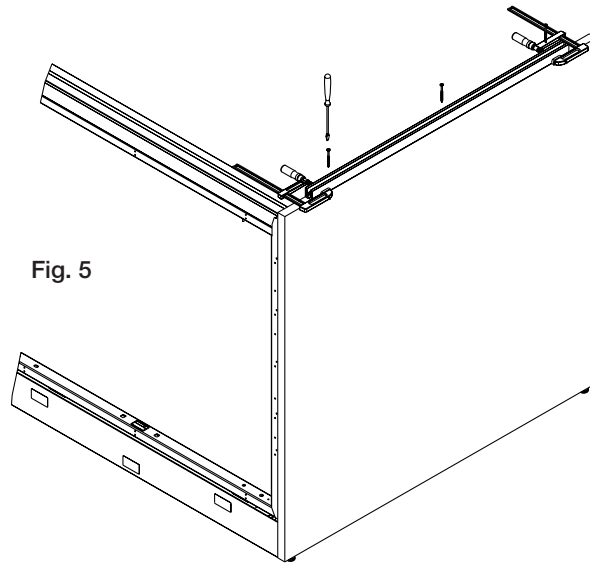

Fig. 5
5. Replace the channel and trim assembly on top of the gallery panel and clamp back in place (aligning to the holes and end mark). Drive the 2 1/2" Flat head shrews into the pilot holes. Use an extended driver bit to protect the channel. Make sure the screw heads are seated below the bottom surface of the channel. **(Fig. 5)**